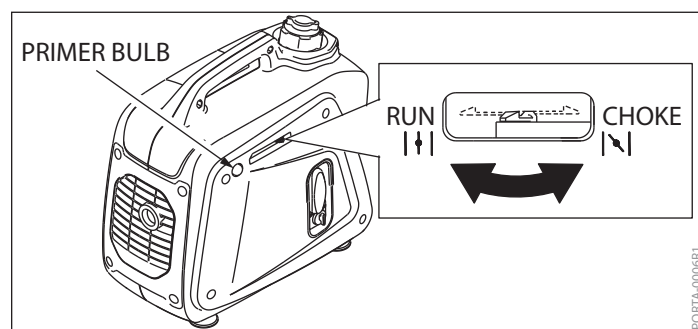

FIGURE 6
4. Press the primer bulb six times with the choke in the **RUN** position. **SEE FIGURE 6**
5. Move choke lever to the **CHOKE** position. **SEE FIGURE 6**
8. Move choke lever back to **RUN** position. **SEE FIGURE 6**